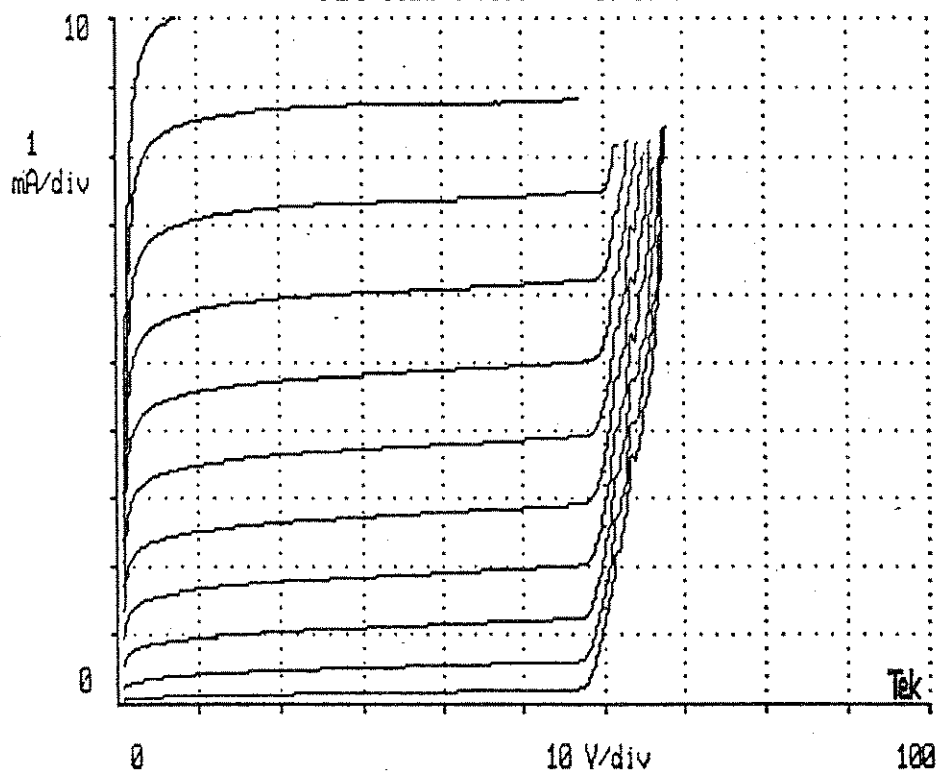

Figure 3-12: Drain Breakdown Voltage Curves
Step 3. Press START and notice the Drain breakdown at about 60 V (See Figure 3-12).